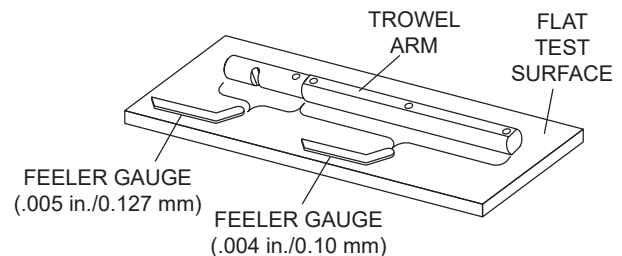

Figure 53. Checking Trowel Arm Flatness
- Check each of the six sides of the trowel arm (hex section). A feeler gauge of .004 in. (0.10 mm) should not pass between the flat of the trowel arm and the test surface along its length on the test surface (Figure 53).